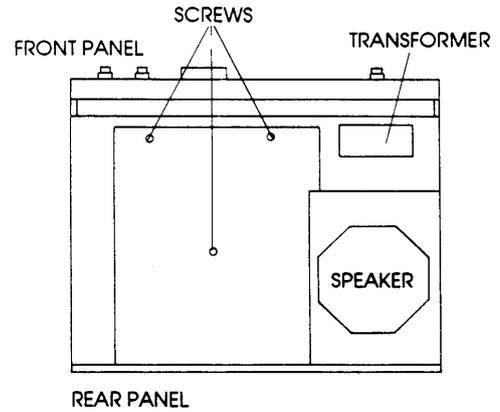

FIGURE 2 R8 TOP VIEW
4) Locate the top mounted printed circuit board (Front End Board) as shown in Figure 2. Remove (3) screws that attach the board to the chassis standoffs. Retain the screws for later reassembly.